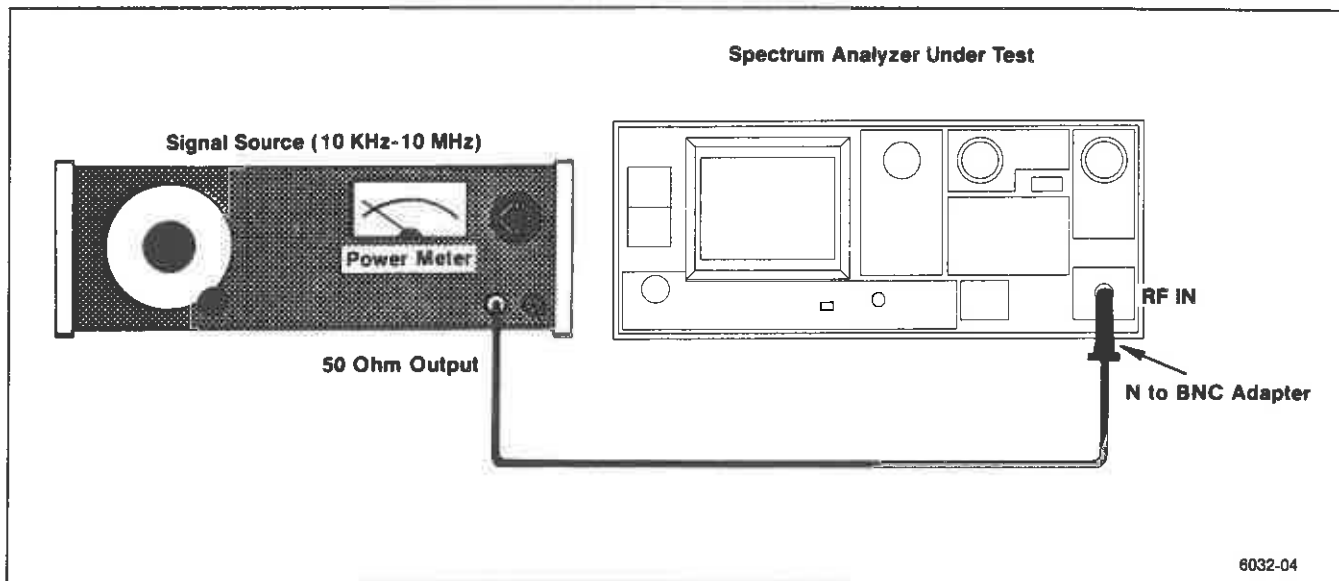

Figure 4-12. Test equipment setup for measuring 10 kHz to 10 MHz frequency response.
(1) Connect the test equipment as shown in Figure 4-12. Set CENTER FREQUENCY to 10 MHz.
(2) Set the generator output for -20 dBm at 10 MHz, and set the Spectrum Analyzer controls as follows: